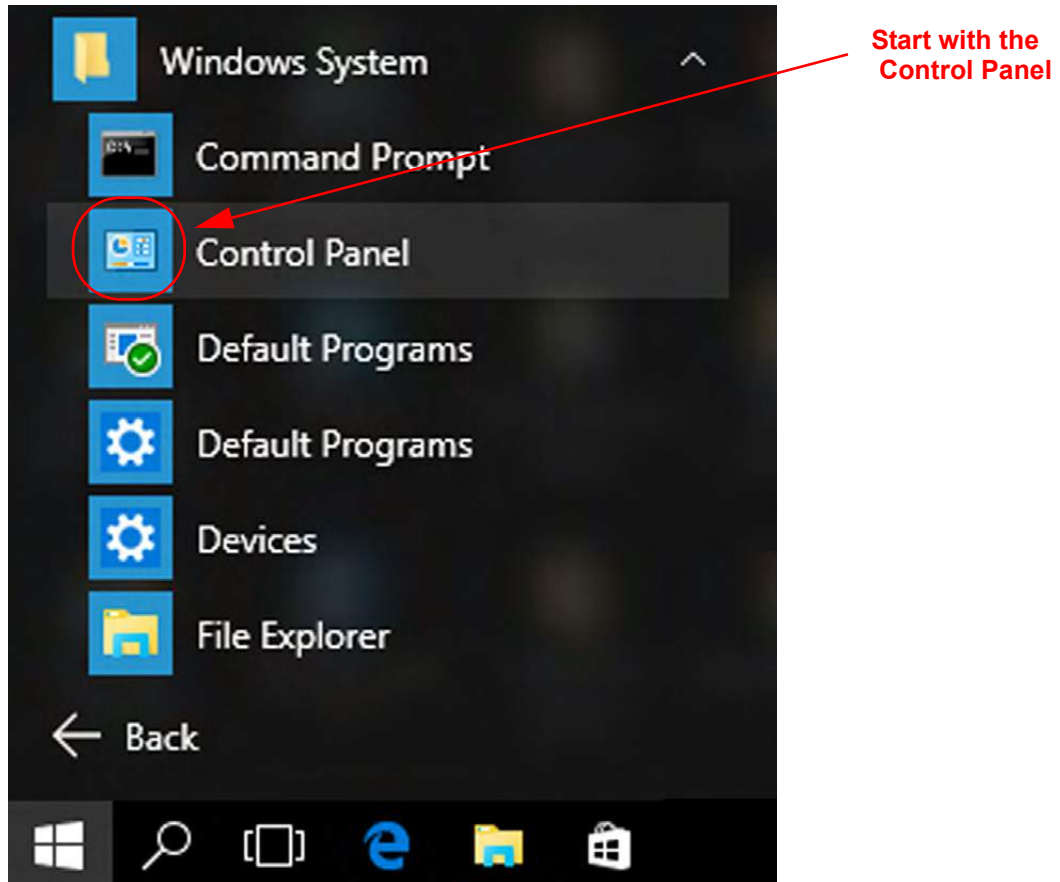

Figure 3.18: Windows 10: Start Menu -> Control Panel
1. Open the Control Panel. See Figure 3.18.